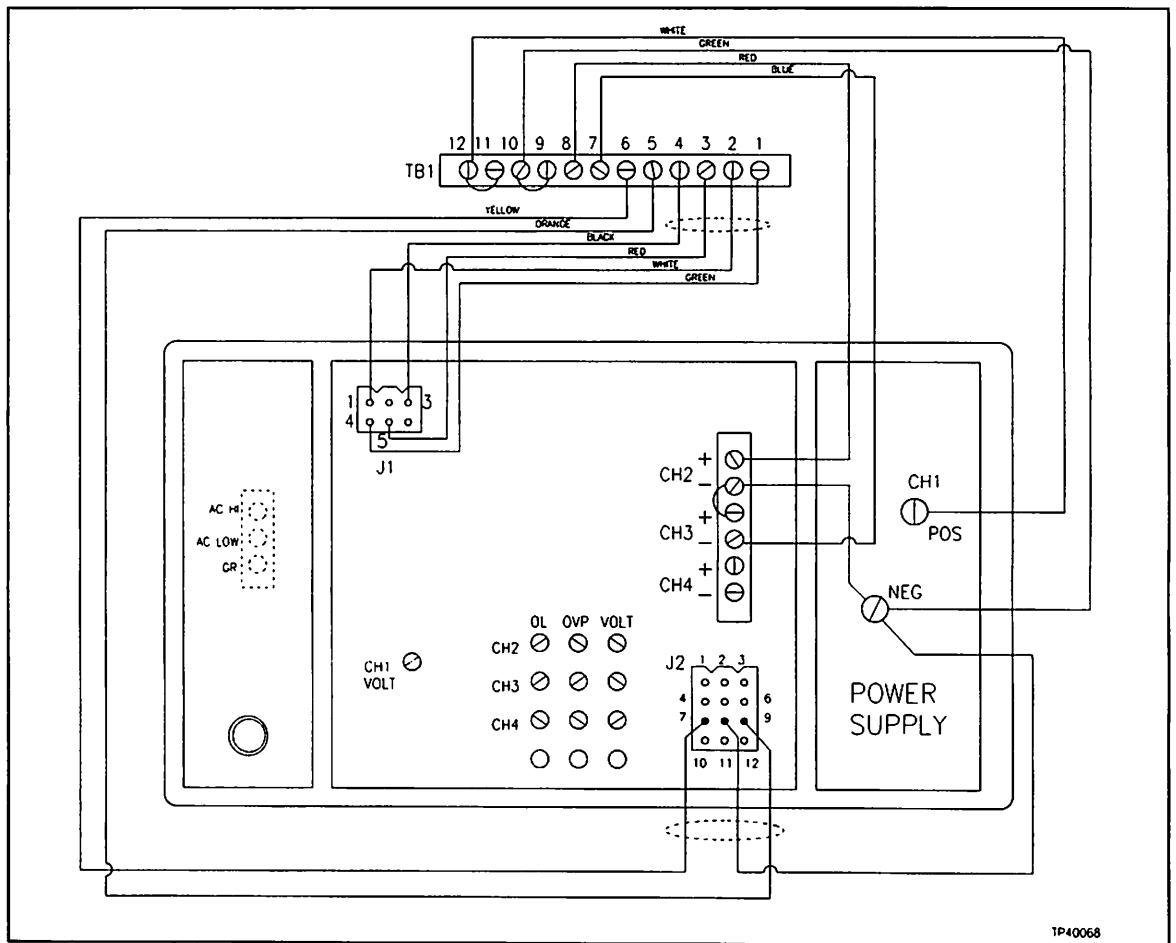

Figure 5-2. Wiring Schematic for Main Power Supply
8. Verify the DC voltages at the power supply (Figure 5-2). DO NOT attempt to adjust the OL and OVP settings. These are factory set.
Adjust the voltages to within a tolerance of approximately 0.25 VDC of the following values, if necessary. A final adjustment will be made later with the power supply under load. Refer to Figure 5-2.